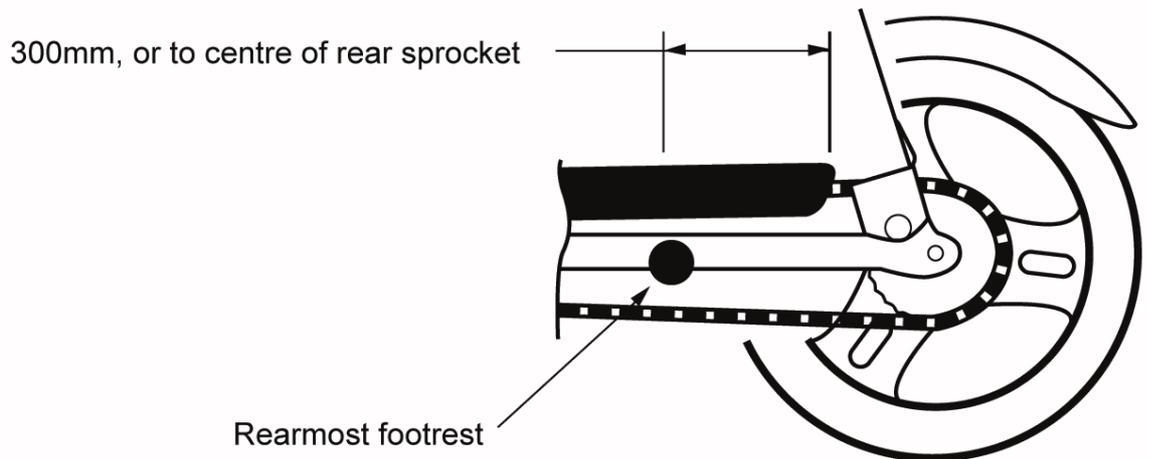

Figure LL2 Chain Guard Dimensions
2.1.11 Drive Guards (Refer to Figure LL2)